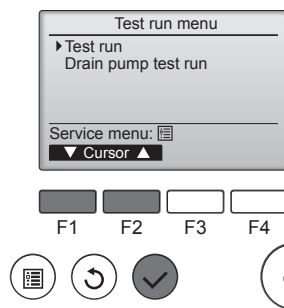

Fig. 6-4
④ Select "Test run" with the [F1] or [F2] button, and press the [✓] button. (Fig. 6-4)